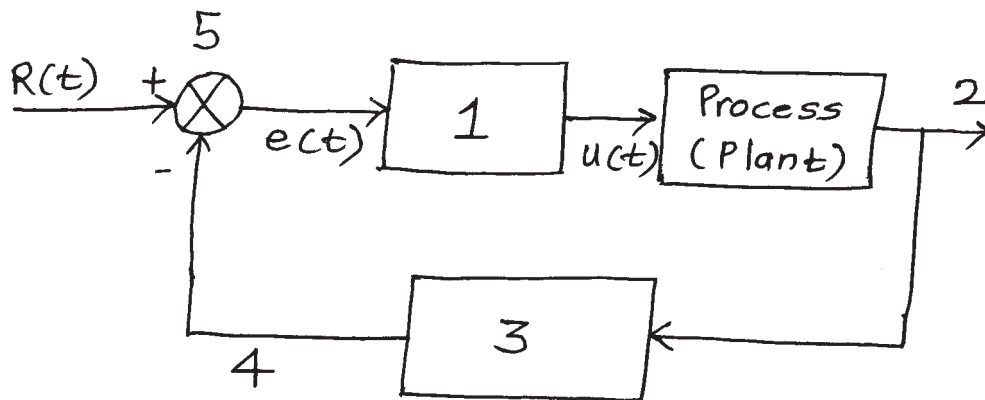

Fig. No. 2
- a) Name the components labelled as 1, 2, 3, 4, 5. Redraw labelled diagram and identify the name of the block diagram. (Fig. No. 2)